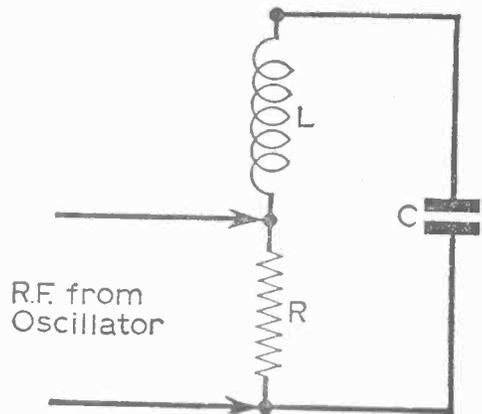
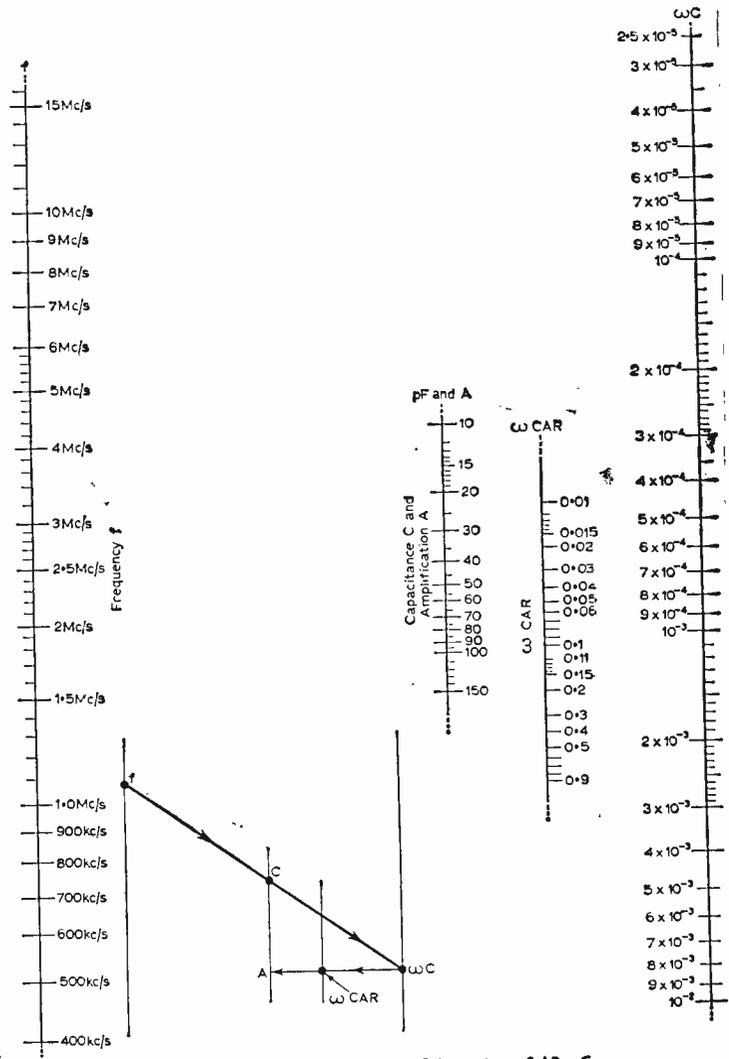

Fig. 1—An explanatory circuit for the Q-Meter.
Fig. 2—A nomograph for finding the value of ARωC.
The I.F.'s given in this example are, in fact, the now "standard" I.F.'s which are to be found in almost all modern receivers. The set-up is given in diagrammatic form in Fig. 1. In earlier models, the local oscillator was often operating below the signal frequencies, meaning that the sound I.F. was below the vision I.F. (Fig. 2). On multi-channel receivers, a channel change simply means that both the incoming frequencies and the oscillator frequency are changed simultaneously in the same ratio, so that the sound and vision I.F.'s remain the same.
Fig. 1—A block diagram of the first two stages in a television receiver common to both sound and vision. The standard I.F.'s (e.g., sound at 38.15Mc/s and vision at 34.65Mc/s) are produced by the local oscillator operating above the signal frequencies, causing the sound I.F. to be higher than the vision I.F.
Fig. 2—In early TV sets, the sound I.F. was often lower than the vision I.F., since the local oscillator was arranged to operate below the incoming frequencies, as this diagram shows. An example using such a combination is the Ultra 72 series of receivers.
The instrument now to be described uses this effect to measure the Q of a coil. The essential circuit is shown in Fig. 1. L represents the coil under test, C a good quality capacitor the losses of which can be neglected, and R is a small resistor of which the value is known accurately. An oscillator connected across R causes an R.F. current to
From equation (2) or (3) it will be noted that if the added resistance R is very small  $Q = A$ . This is the way it would be most desirable to use the instrument, but it is out of the question, unless Q is relatively low. However, the formula enables the true value of Q to be obtained from the observed quantity A. The formula should always be applied when A is found to be 60 or more. Fig. 2 is a nomograph from which the value of  $AR\omega C$ , and the chance of getting the decimal point in the wrong place.
Fig. 2—The resistance of a normal resistor remains constant with variations in the voltage present across it; thus, the voltage/current characteristic is linear as shown in (a). With a voltage-dependent resistor, however, the resistance is not constant, but falls as the voltage across it increases. This gives a non-linear voltage/current characteristic shown in (b).